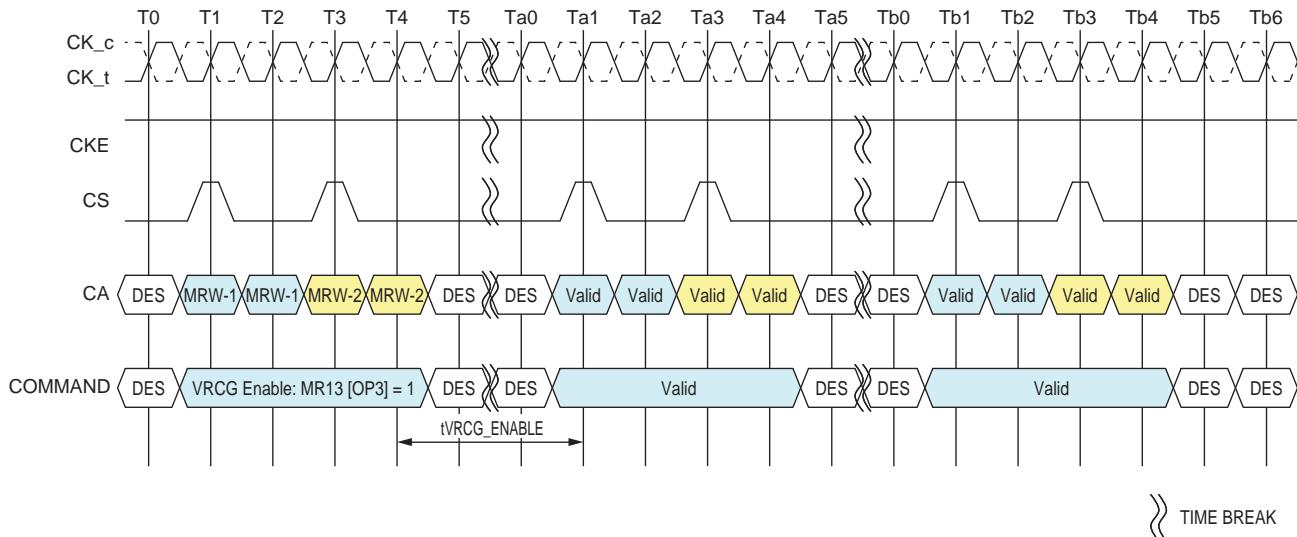

Figure 4.67 — VRCG Enable timing
LPDDR4 SDRAM V_{REF} current generators (VRCG) incorporate a high current mode to reduce the settling time of the internal V_{REF}(DQ) and V_{REF}(CA) levels during training and when changing frequency set points during operation. The high current mode is enabled by setting MR13[OP3] = 1. Only Deselect commands may be issued until tVRCG_ENABLE is satisfied. tVRCG_ENABLE timing is shown in Figure 4.67.